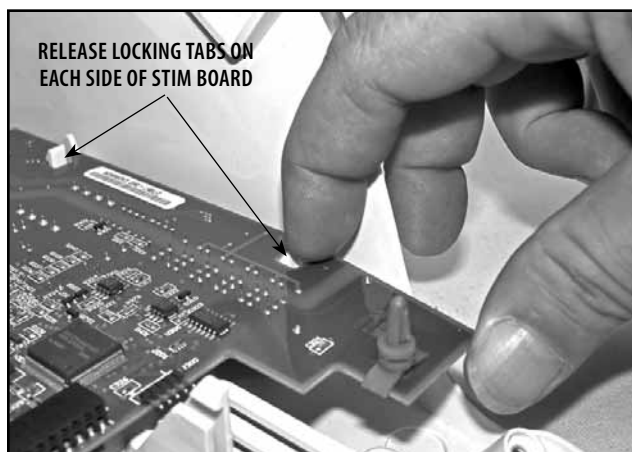

FIGURE 6.41
8. Gently pull up on each corner and release the plastic retaining tabs holding the Stim Board in position. See Figure 6.41.